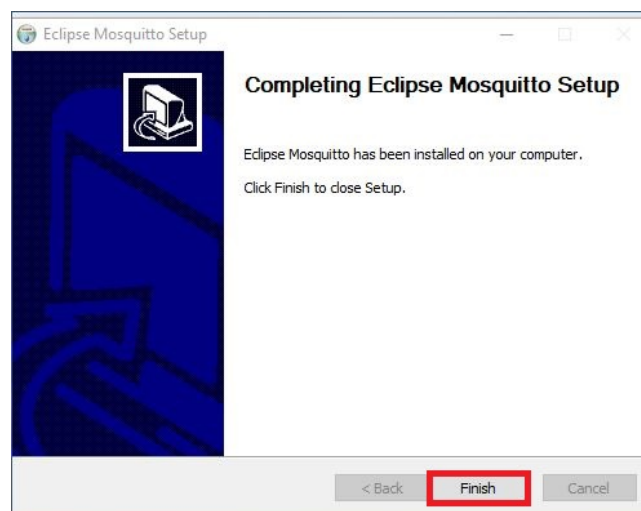

Figure 4.29: End of Fast Mode installation
19. Click "Finish" to complete the installation of Fast Mode, as shown in figure 4.29.